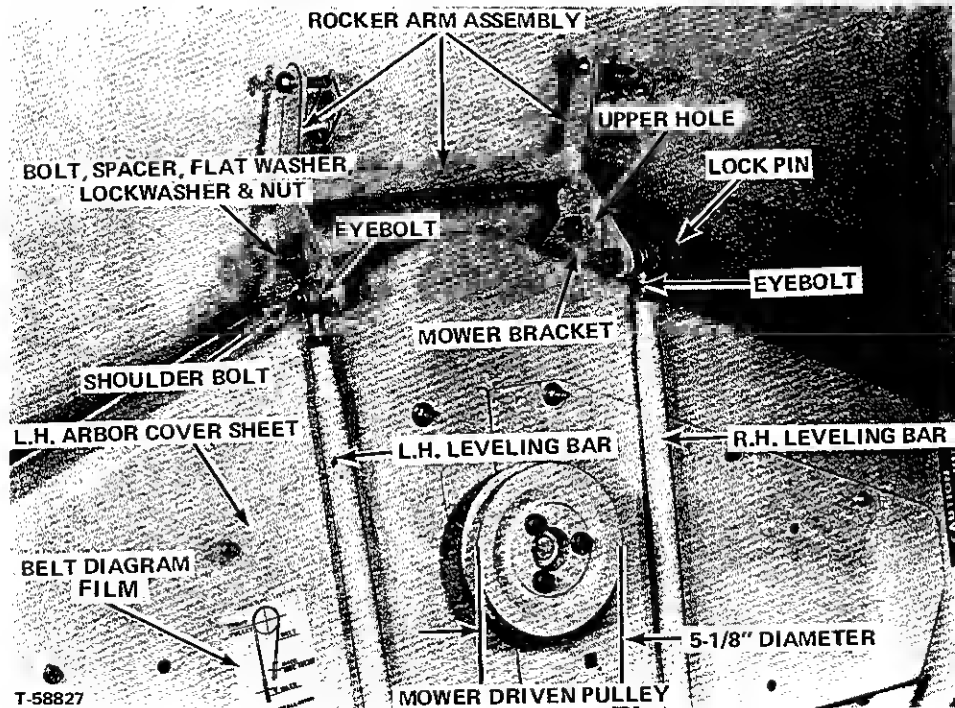

Figure 1.
1. See Figure 1. Bolt the rocker arm assembly in the lower holes of the mower brackets with two bolts, spacers, flat washers, lockwashers and nuts.
2. See Figure 1. Place shoulder bolts into rear holes of the rocker arm assemblies from the outside and install the eyebolt ends of the right and left leveling bars on the plain end of shoulder bolts and secure with lock pins.
3. See Figure 1. Install the mower driven pulley on the mower drive hub.
4. See Figure 1. Place the belt diagram film on the left arbor cover sheet.